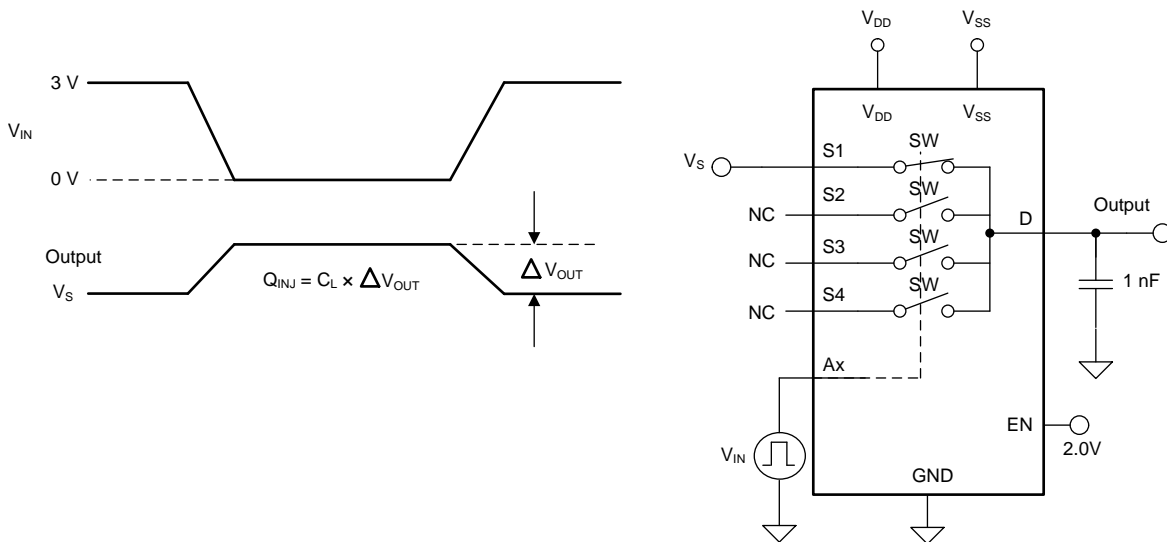

图 23. Charge-Injection Measurement Setup
The TMUX6104 have a simple transmission-gate topology. Any mismatch in capacitance between the NMOS and PMOS transistors results in a charge injected into the drain or source during the falling or rising edge of the gate signal. The amount of charge injected into the source or drain of the device is known as charge injection, and is denoted by the symbol Q_{INJ} . 图 23 shows the setup used to measure charge injection from source (Sx) to drain (D).